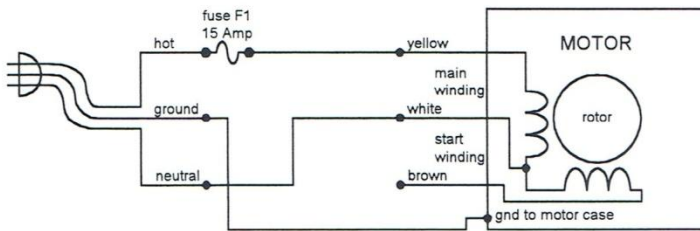

Figure 5.
1. With the AC power cord unplugged, make the connections from the AC power line to the motor as shown in Figure 5. Note that the AC power line is connected to the main winding only.
2. Keep the connections to the motor the same as shown in Figure 5. Plug in the AC power cord and twist the shaft in the clockwise direction. Unplug the power cord if nothing happens.
3. Keep the connections to the motor the same as shown in Figure 5. Plug in the AC power cord and twist the shaft in the counterclockwise direction. Unplug the power cord if nothing happens.